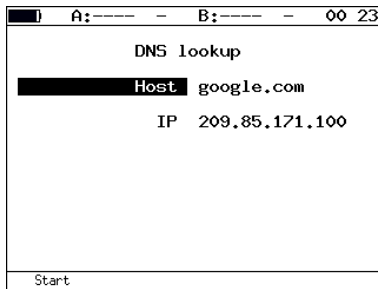

Figure 5.63. DNS menu
2. Switch to the *DNS lookup* menu (see fig. 5.63).
Test result example is shown on the fig. 5.63.